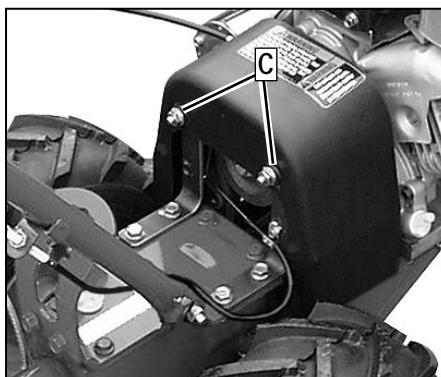

Figure 5-13: Belt cover.
2. Remove the belt cover by removing the two nuts (C, Figure 5-13).